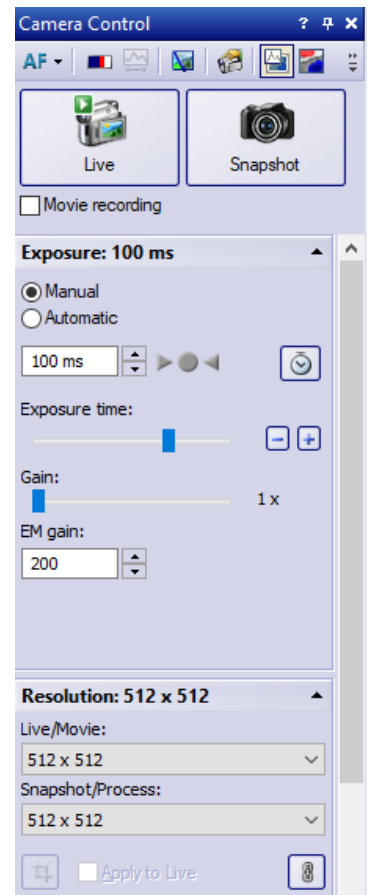

Fig.2 Camera Control
6. Go to **Camera control** (Fig.2.) window and press **Live**
3. Go to life mode in the **Camera Control** window (Fig.2)